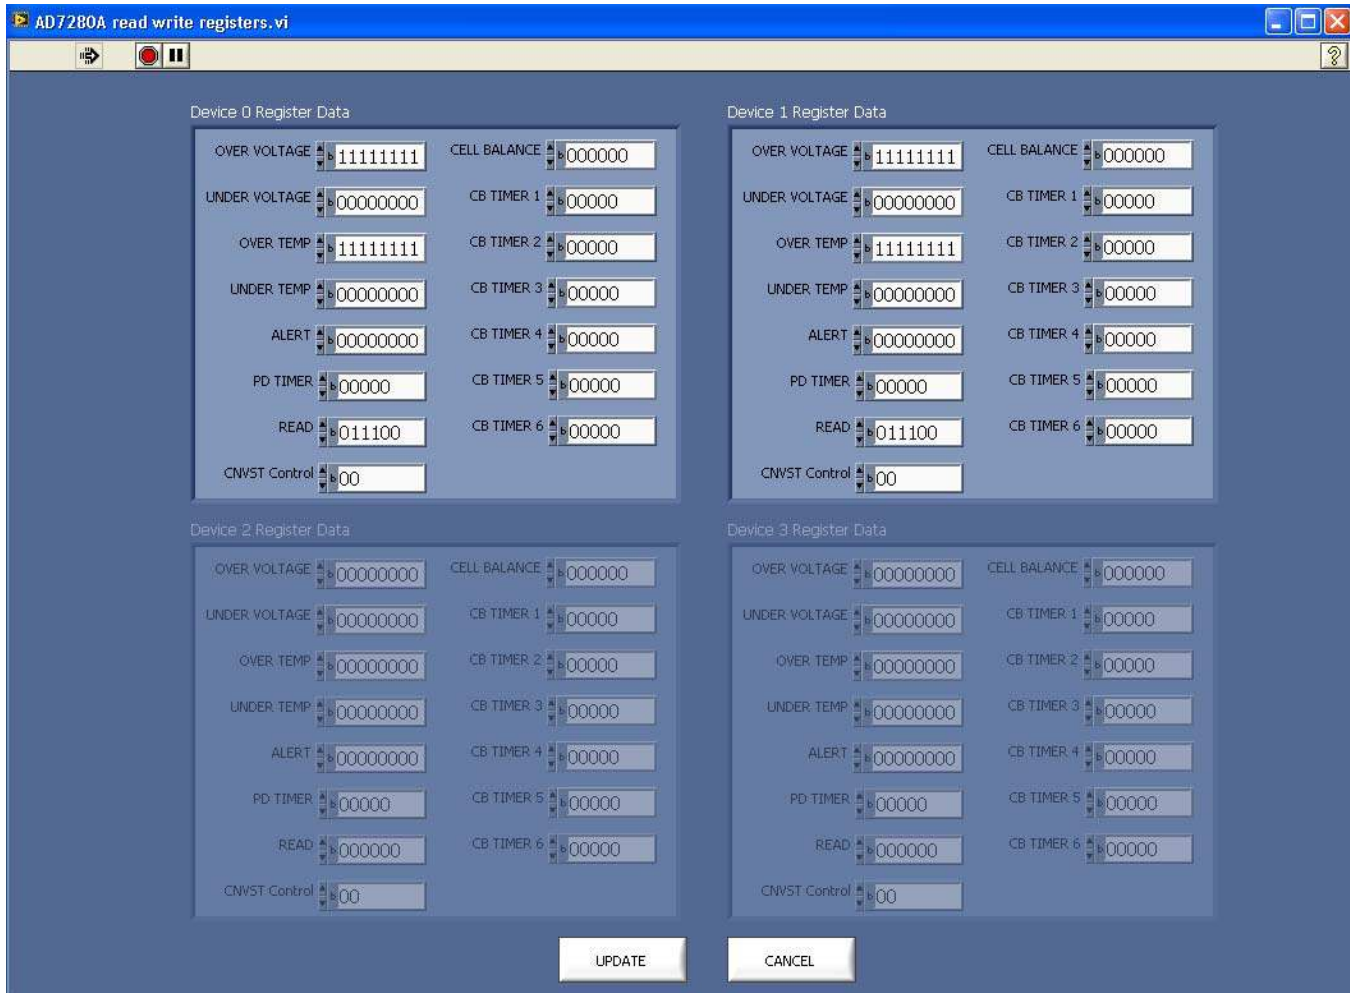

Figure 4. AD7280A Read/Write Register Window
**Read/Write Registers.** Allows the user to read from and write to the registers on both AD7280As on the evaluation board. Figure 4 shows the window that appears when this button is pressed.
When you click the **Read/Write Registers** button, the software instructs the EVAL-CED1Z board to read the data in each of the AD7280A registers and displays this information on the screen, as shown in Figure 4.